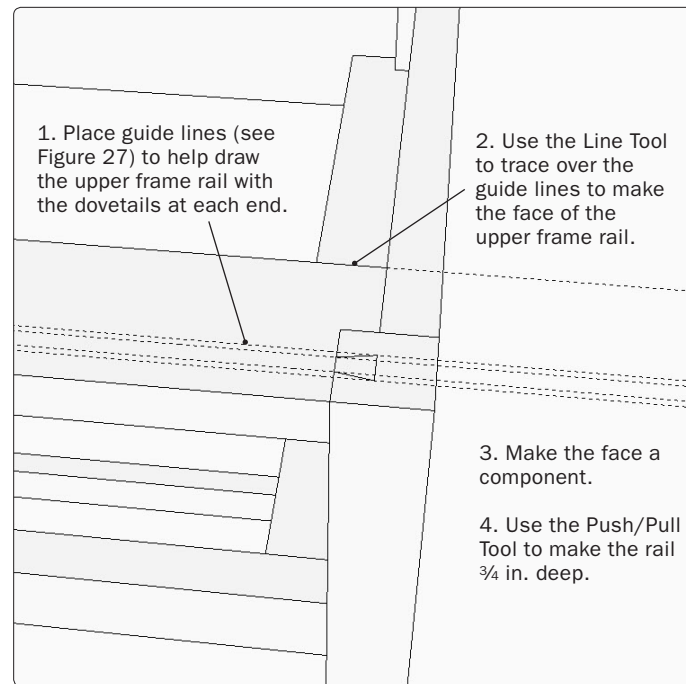

Figure 28. Draw the front frame rail.
Step 24 Use the Tape Measure Tool to place guide lines defining the front frame rail, including the shape of the dovetail at each end. Use the Line Tool to trace over the guide lines to create the top face of the rail. Make the rail a component and use the Push/Pull Tool to give it the proper thickness (Figure 28).